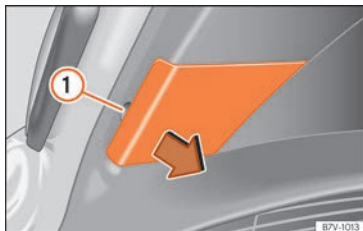

Fig. 68 On the rear lid: remove the cover.
- Extract the cover carefully using the flat part of the screwdriver from the vehicle tool kit as a lever (» page 41) on the indent » **Fig. 68 ①**.